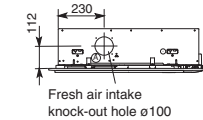

Fig. 3-5
- (5) If the system requires fresh air to be drawn into the unit, cut and remove the insulation (both externally and internally) at the location shown as (A) in Fig. 3-5.